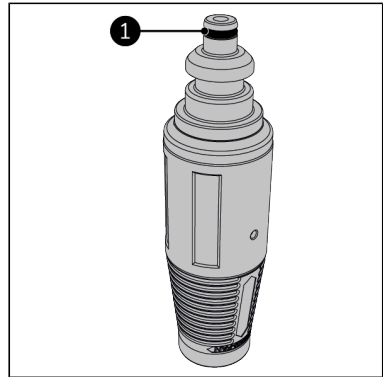

Figure 36.
2. Apply Vaseline to the O-ring of the nozzle (Figure 36, pos. 1).